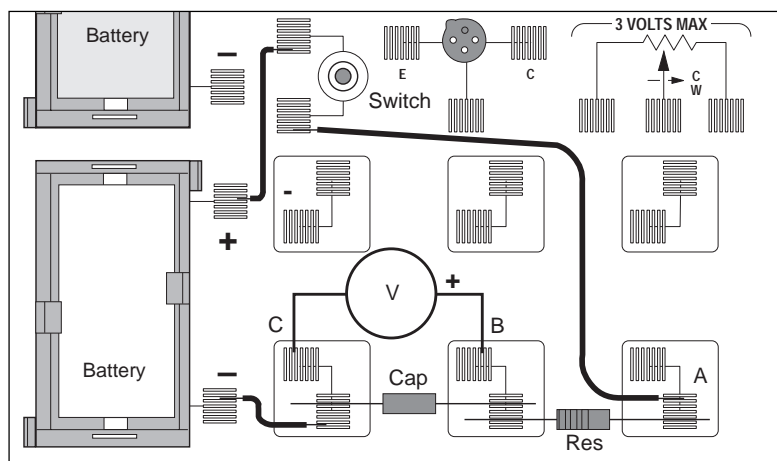

Figure 8.1
- ① Connect the circuit shown in Figure 8.1, using a 100 k Ω resistor and a 100 μ F capacitor. Connect the circuit as shown in Figure 8.1. Connect the VTVM so the black “ground” lead is on the side of the capacitor that connects to the negative terminal of the battery and set it so that it reads to a maximum of 1.5 V DC.
- ② Start with no voltage on the capacitor and the switch off. If there is remaining voltage on the capacitor, use a piece of wire to “short” the two leads together, draining any remaining charge. (Touch the ends of the wire to points **B** and **C** as shown in Figure 8.1 to discharge the capacitor.)
- ③ Now close the switch by pushing and holding the button down. Observe the voltage readings on the VTVM, the voltage across the capacitor. How would you describe the manner in which the voltage changes?
- ④ If you now open the switch by releasing the button, the capacitor should remain at its present voltage with a very slow drop over time. This indicates that the charge you placed on the capacitor has no way to move back to neutralize the excess charges on the two plates.
- ⑤ Connect a wire between points **A** and **C** in the circuit, allowing the charge to drain back through the resistor. Observe the voltage readings on the VTVM as the charge flows back. How would you describe the manner in which the voltage falls? (It would be reasonable to sketch a graph showing the manner in which the voltage rose over time as well as the manner in which it fell over time.)
- ⑥ Repeat steps 3-5 until you have a good feeling for the process of charging and discharging of a capacitor through a resistance.
- ⑦ Now repeat steps 3-5, this time recording the time taken to move from 0.0 volts to 0.95 volts while charging, t_C , and the time taken to move from 1.5 volts to 0.55 volts while discharging, t_D . Record your times along with the resistance and capacitance values in Table 8.1 at the top of the back page.